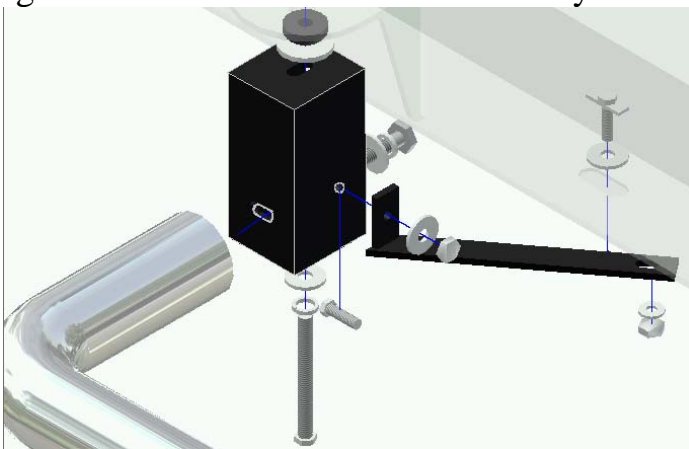

Figure 1.5 – 1500/2500/3500 Front Mount Assembly
5. Attach Front Brace Bracket to side of Front Mount Bracket using (1) M10X40mm bolt, (2) M10 flat washers, and (1) M10 hex nut ,(1) lock washer (see Figure 1.5). Place (1) M10 x 40 bolt with welded strap and (1) M12 flat washer through cut out in frame rail. Line up slot on the long arm of the Brace Bracket with this bolt and secure using (1) M10 flat washer and (1) M10 lock nut,(1) lock washer. Hand tighten.
6. Attach Side Tube to Front and Rear Brackets using (1) M12 – 1.75 x 60mm HEX HEAD BOLT , (1) M12 split lock washer and (1) M12 flat washer for each bracket, and hand tighten. Torque M12 bolts first to 65 ft-lbs and then tighten all remaining fasteners to complete the driver-side assembly.